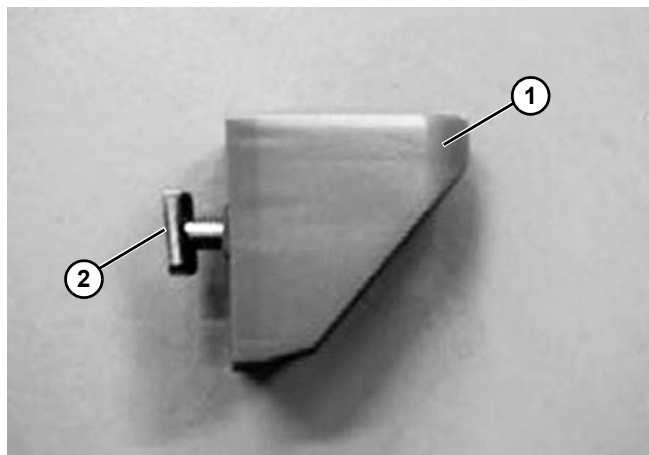

Figure 92
1. Prepare the heavy-duty guide rail bracket (**Figure 92, item 1**) with T-bolt (**Figure 92, item 2**).